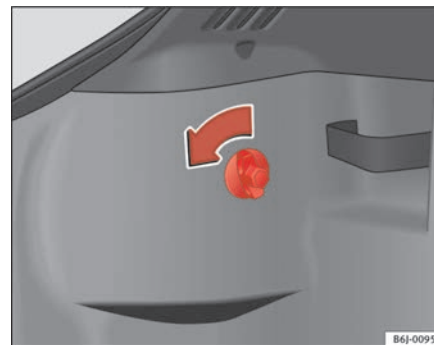

Fig. 155 Access to rear lights
- Turn the bolt in the direction of the arrow, by hand or with the a screwdriver ⇒ fig. 155.
- Remove the housing connector (A) ⇒ page 223, fig. 155.